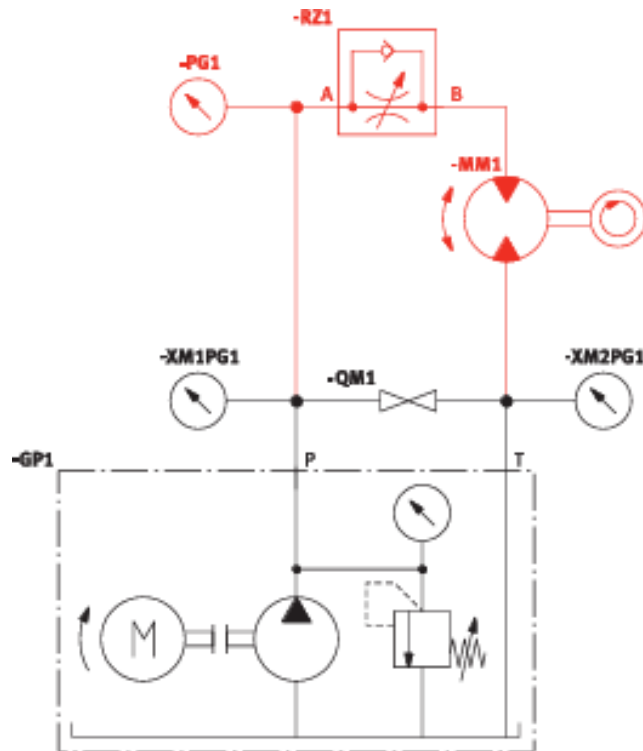

Figure 5.13: A circuit designed to demonstrate maximum pressure. When the cylinder is blocked, pressure rises to the setting of the relief valve.
**3. Circuit Analysis: A Pressing Operation** The circuit in Figure 5.13 demonstrates a pressing operation where a cylinder extends against a load.
2. Build the circuit as shown in Figure 5.13. You will need: